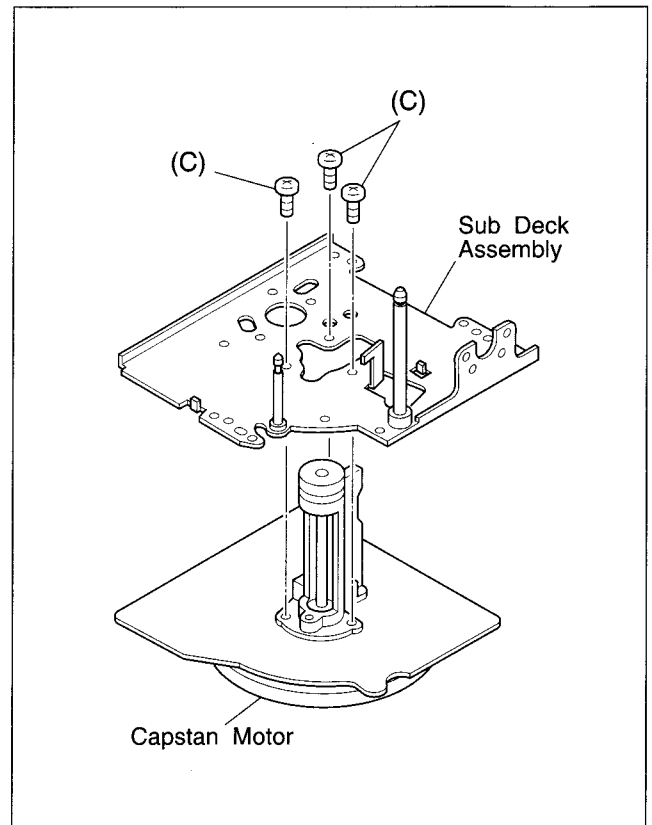

Fig.1-5-9
- (4) Take out 3 screws (C) and remove the capstan motor from the sub deck assembly as indicated in Fig.1-5-9.